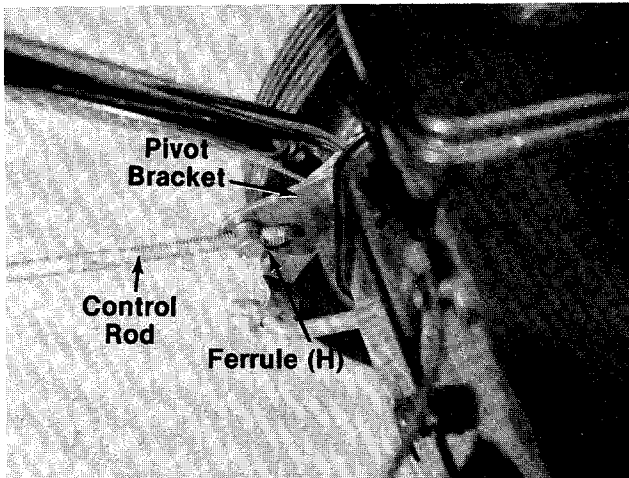

FIGURE 8.
1. Pull pivot bracket up as far as it will go. See figure 8. Place ferrule (H) through hole in pivot bracket. Thread control rod into ferrule approximately one-half inch.